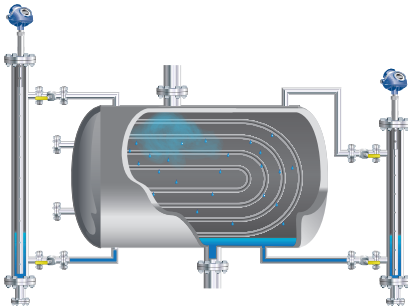

Figure 4.3.1: Feedwater heater level with long and short range installation of external chamber
- Short range installation is recommended, see figure 4.3.1